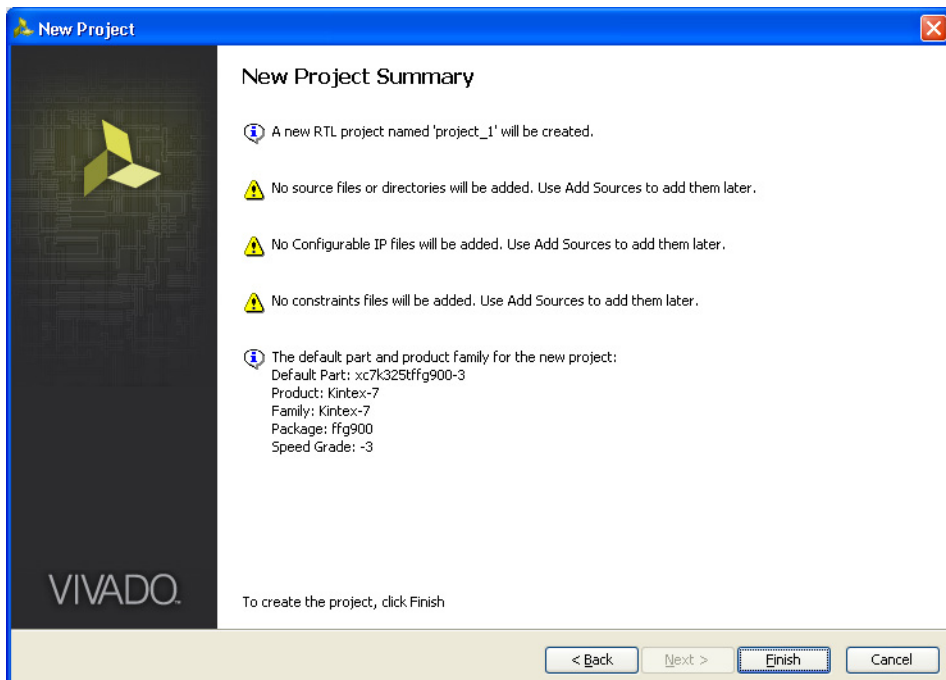

Figure 4-11: New Project Summary
- Click **Next** to open the New Project Summary page (Figure 4-11). This includes the summary of selected project details.